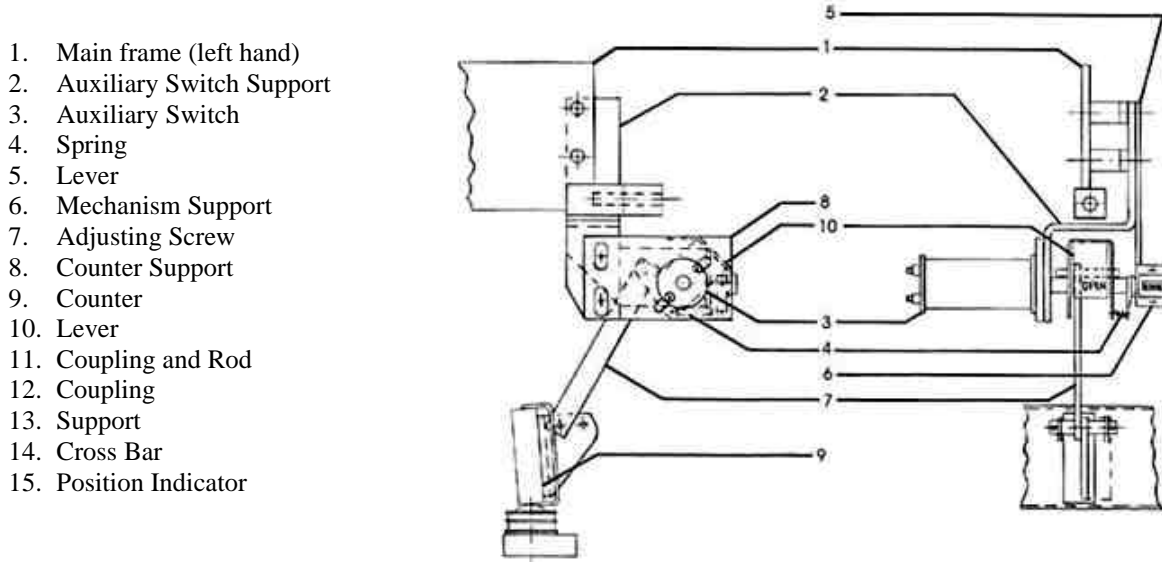

Figure 13 - Auxiliary Switch and Linkage
A. Auxiliary Switch and Operation Counter (Figure 13)